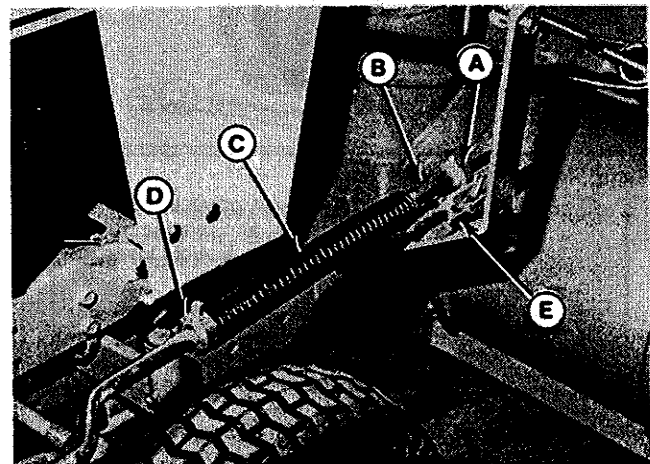

Figure 7. Lift Rod
9. Insert the prong on the rod guide (B, figure 7) thru the hole in snowthrower arm as shown in figure 7. Insert the spring clip (E) thru hole in prong to secure in place.
10. With the lift lever in lowered position, position the front set collar (A) so there is approximately one inch (25.4 mm) between rod guide (B) and set collar (A). Tighten the setscrew.
11. Raise the lift lever fully. Position the spring (C) against the rod guide (B) and the rear set collar (D) snug against the spring. Tighten the setscrew. Lower the snowthrower.